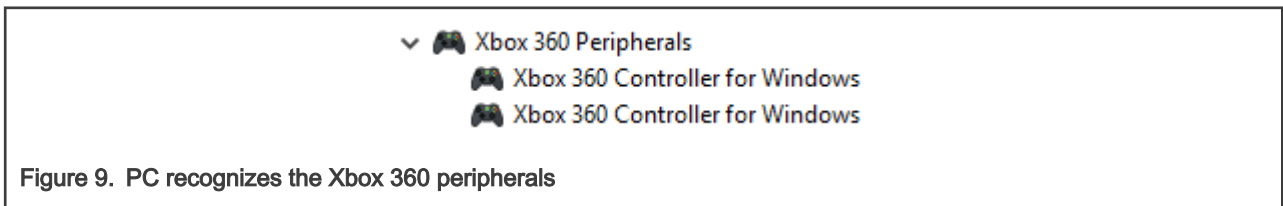

Figure 9. PC recognizes the Xbox 360 peripherals
3. Reset the dongle board and gamepad board, make them to run respective applications, and wait for the Bluetooth LE connection to be established. After the pairing is successfully, the red LED, **D2**, on the two boards will turn off and the PC recognize two Xbox 360 peripherals, as shown in Figure 9.